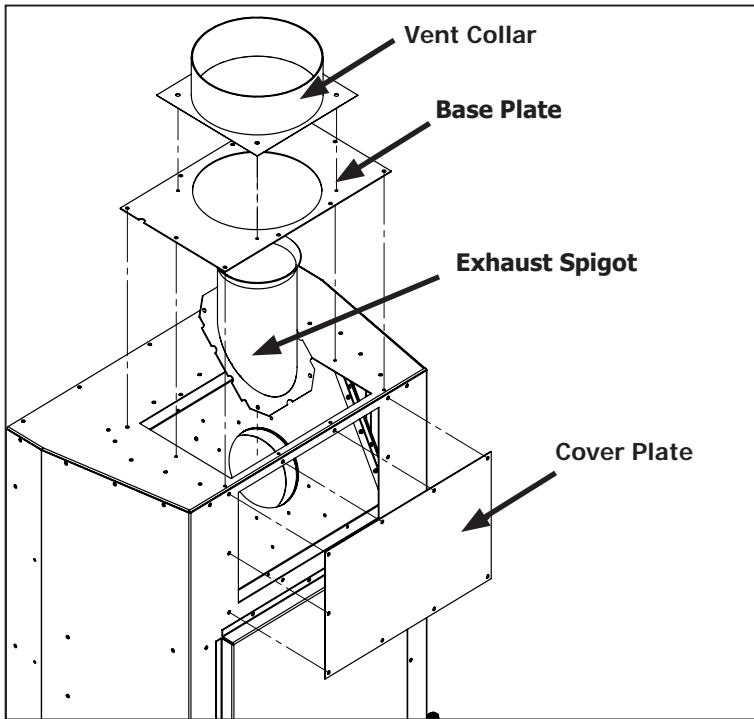

Figure 17. Vent Conversion - Step 1
**Step 1:** Using a T20 screwdriver remove the vent collar, base plate, cover plate and exhaust spigot (28 screws total) as shown in Figure 17.